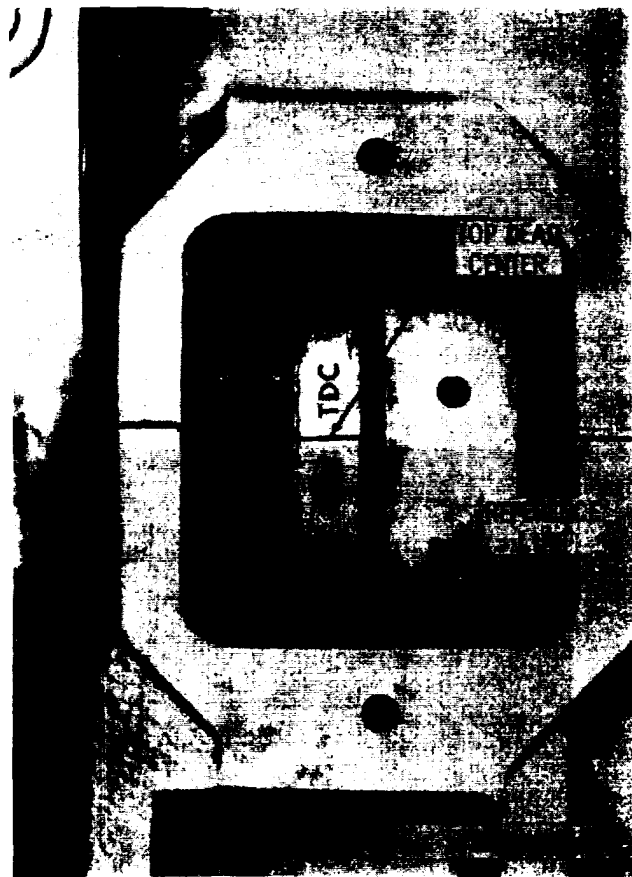

Figure 2-7. Flywheel timing marks.
b. Place thumb over the spark plug opening and rotate engine crankshaft until outward pressure can be felt. Continue cranking until the TDC mark on the flywheel is aligned in the center of the timing hole (fig. 2-7).